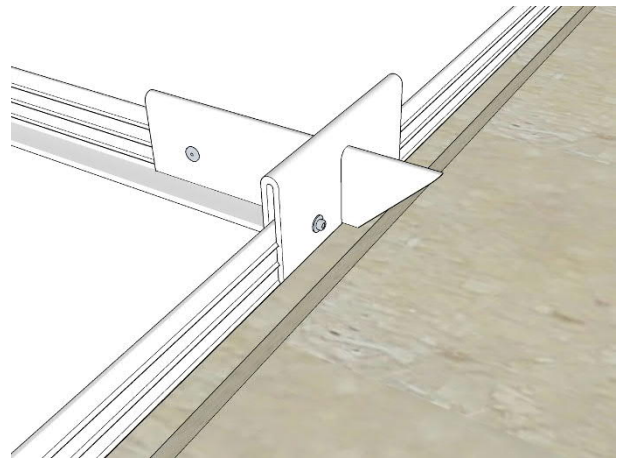

FIG. 16
2. The **Offset Clamp** can be “modified” to intersect with any type of ceiling condition such as ceiling panels, lights, air handling equipment (diffusers, grilles, HEPA equipment) grid change in direction, etc.. These “**Modified**” **Offset Clamps** can be supplied by Arcoplast from the factory or can be modified easily in the field per encountered item or situation. FIG. 16